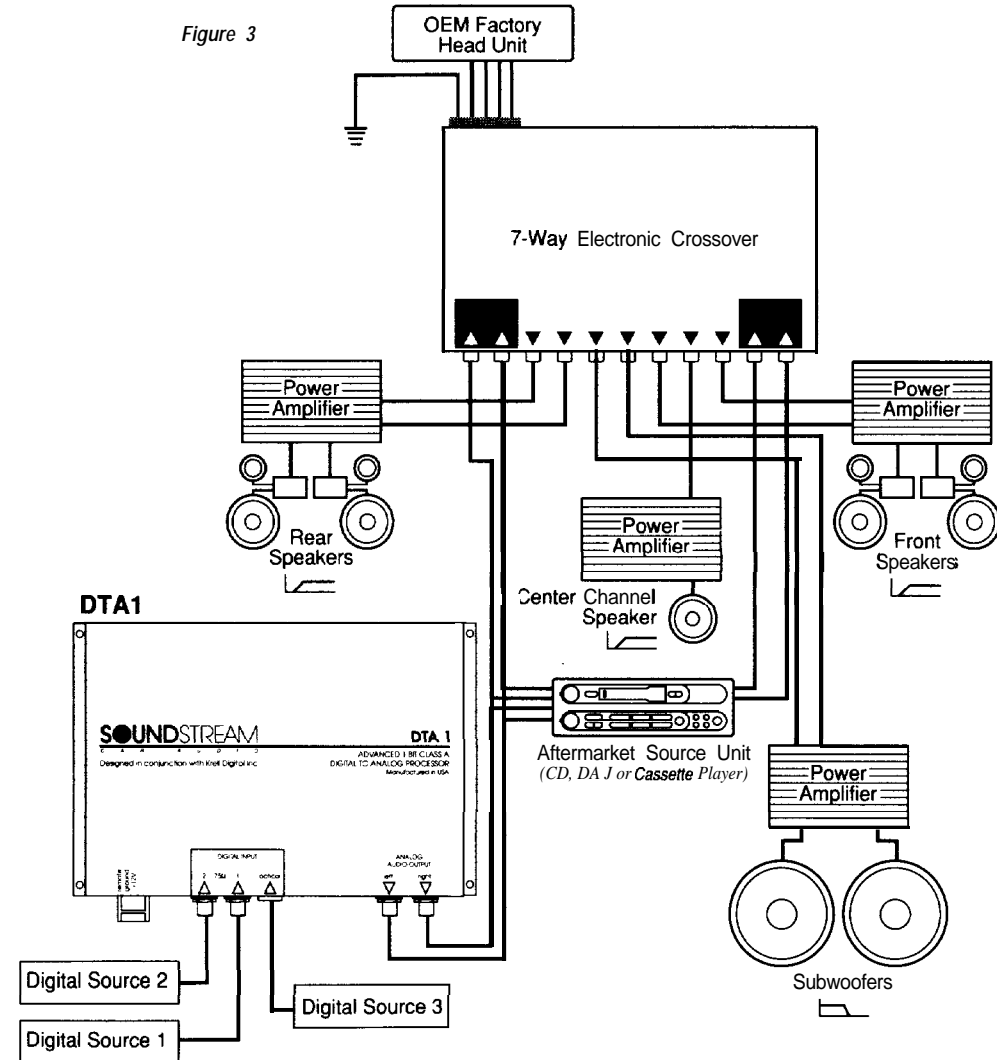

Figure 3
In general, you should plan to connect the DTA1 between the digital source and the control head unit, as shown in Figure 3. If you are using an equalizer or active crossover, be sure to insert the DTA1 in the chain before any of these components.
5. Connect an appropriate length of high-performance stereo RCA audio cable from the Left and Right analog audio outputs on the **DTA1** to the CD or Aux input of your head unit or preamp in your mobile system chain (see Figure 3).
8. Connect a red wire (18 gauge) from the +12V terminal through a 0.75 A in-line (fast-blow) fuse, to a constant +12 Vdc source, so that it is "hot" even when the ignition is off. Try connecting it to the battery cable itself, or tapping into a power lead on the control head unit (see Figure 3).